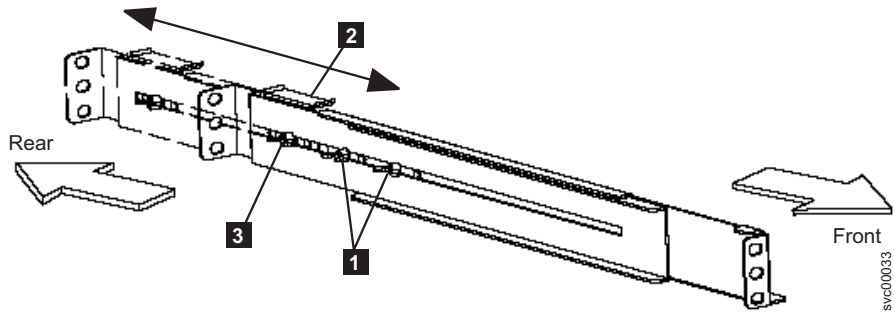

Figure 50. Adjusting the rail depth on the 2145 UPS-1U
4. Loosen the assembly wing nuts (**1** in Figure 50 on page 81) on both rail assemblies and adjust the rail size to the depth of your rack.
5. Position the rear, hold-down bracket (**2** in Figure 50) towards the end of the rail assemblies and tighten the wing nut (**3** in Figure 50).